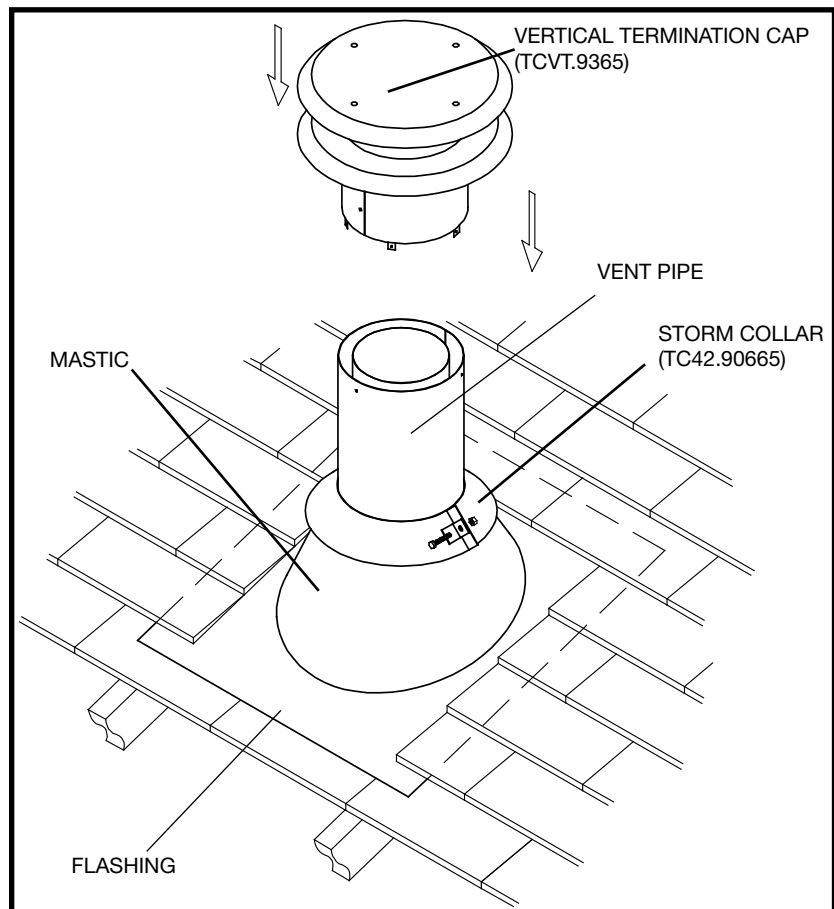

Figure 39: Roof vent terminal.
1. Place the roof flashing over the vent pipe, secure and seal it to the roof using the methods and materials appropriate for the type of roof on the building. Shingle roof example shown (Figure 39).